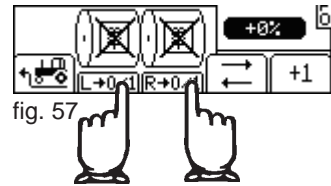

fig. 57
- 1) Manually disable the rotation of the metering units (Fig. 57).